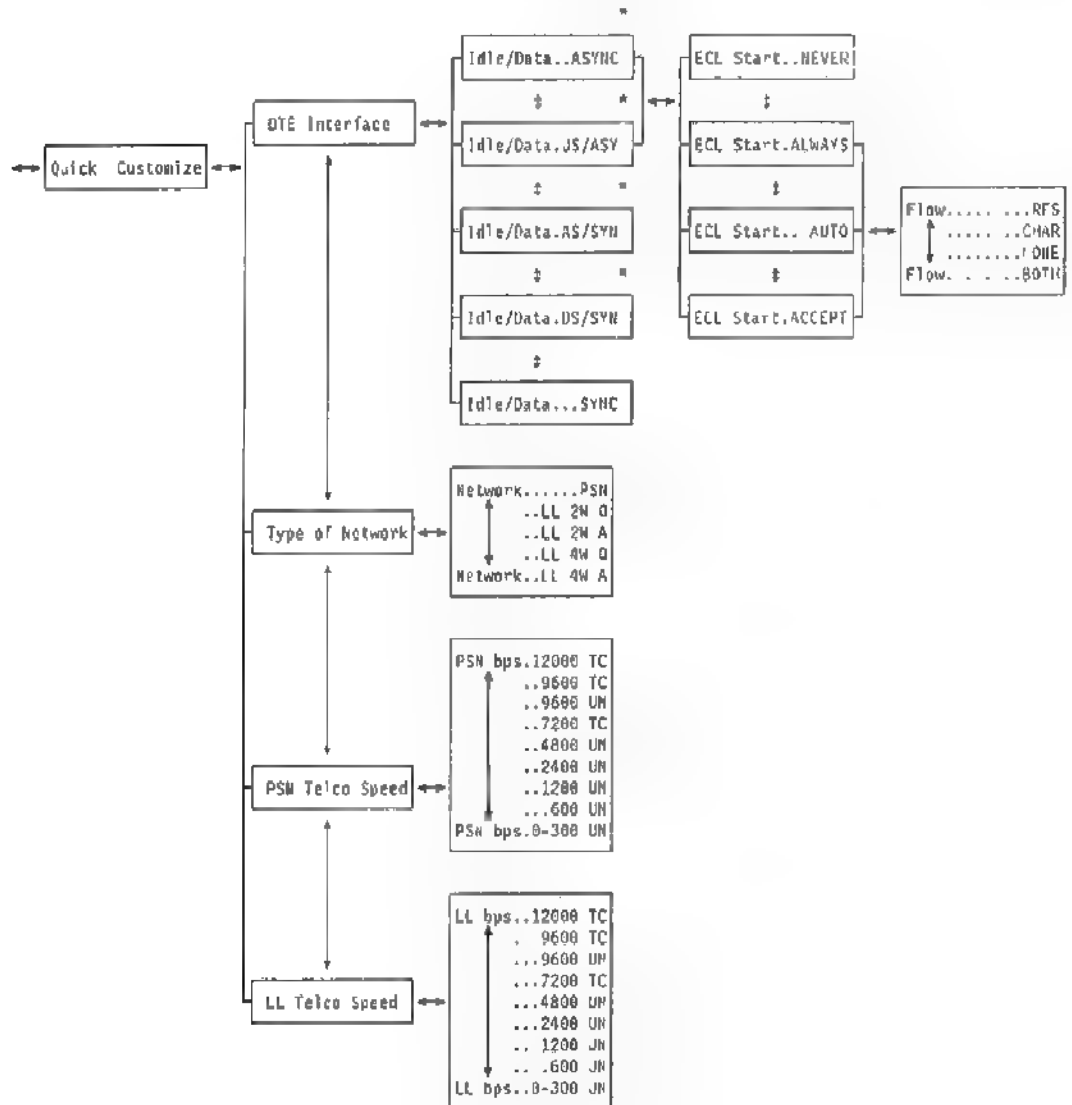
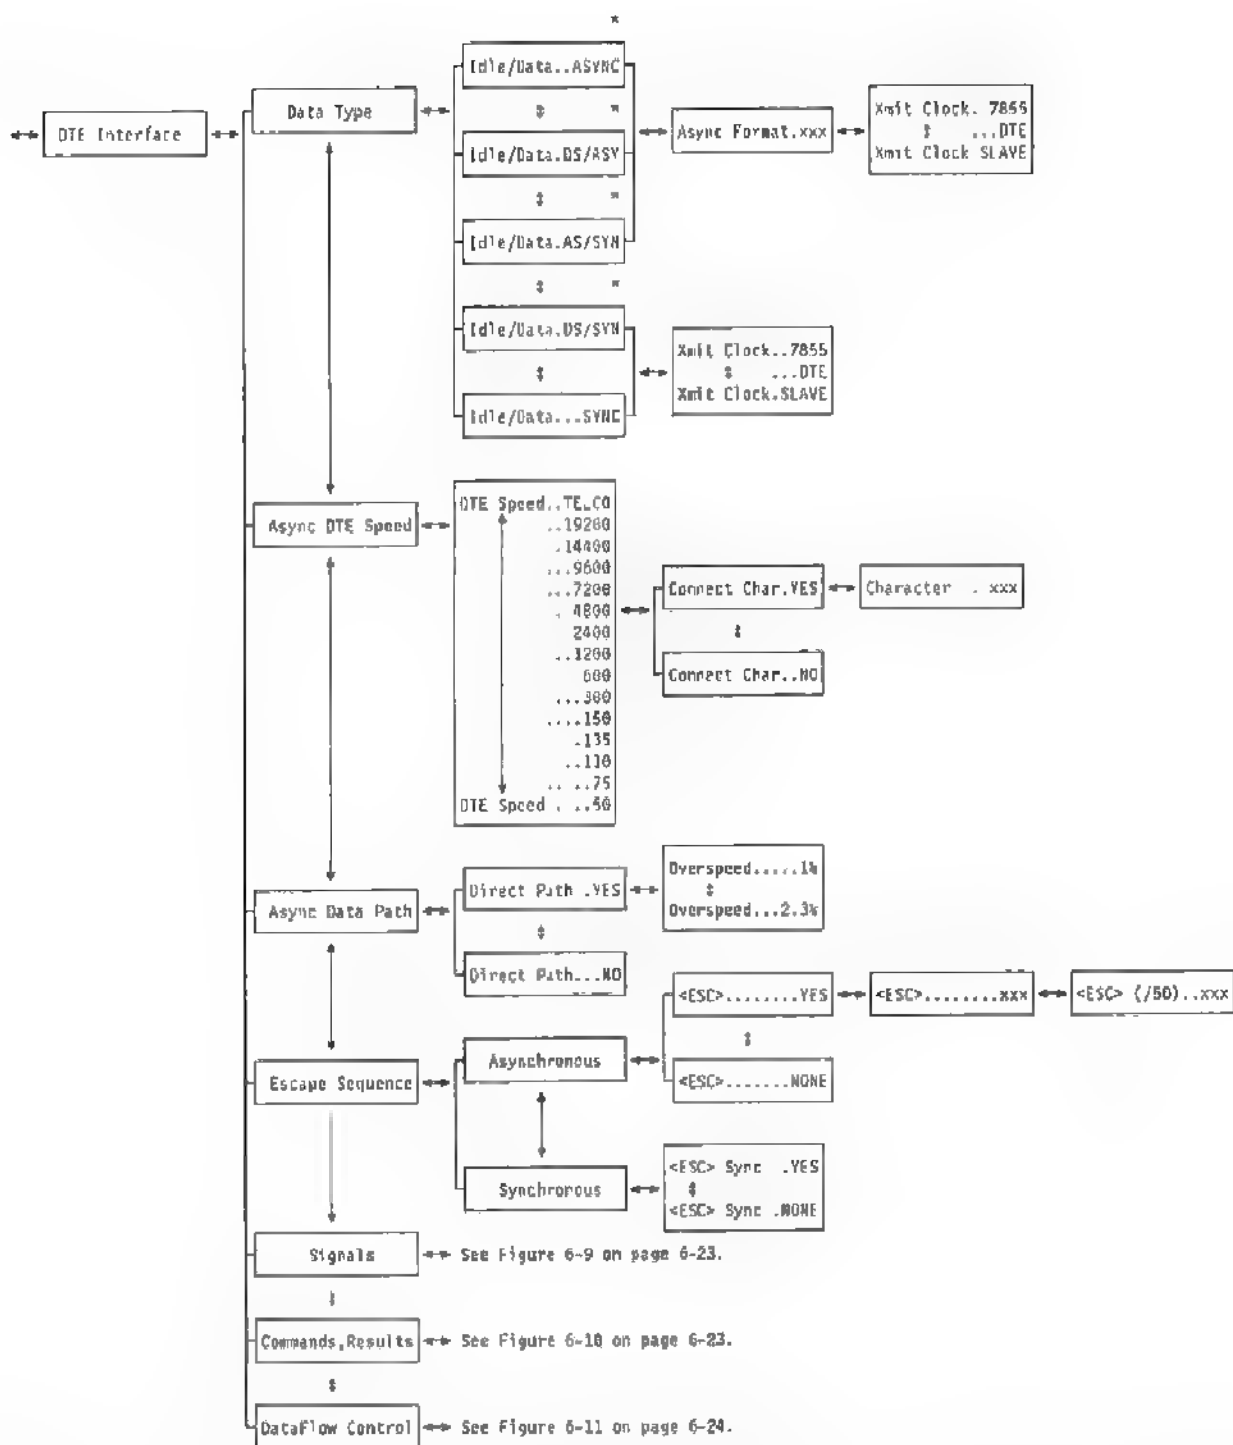
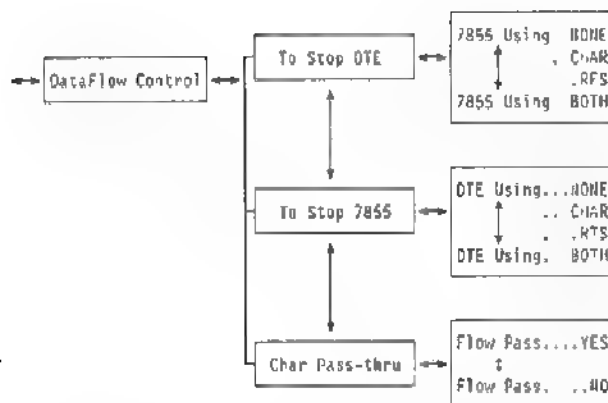

Figure 6-6 The Quick Customize Selections
Figure 6-8 Data Type, Asynchronous DTE Speed and Data Path, and Escapes. The portion of the tree to the "left" of this menu is shown in Figure 6-7
Figure 6-11. DataFlow Control for the DTE Interface. The portion of the tree to the "left" of this menu is shown in Figure 6-7.
**Configuration for Nonswitched Operation:** In the First Setup menu, use the ↑ or ↓ button to make the display show Get Profile and then press → and then use the ↑ or ↓ button to display Profile.....LL and then press ←. The modem is now set for synchronous operation as the originate modem for a 2-wire non-switched telecommunication network. Remember that for nonswitched operation, one modem must be set to originate and the other to answer mode handshaking and that a V.32 modem such as this one should be used with point-to-point (not multi-point) telecommunication lines. You can make this change in the Quick Customize menu which is shown in Figure 6-6 on page 6-17. When you leave the tree structure as described in "Leaving the Configuration Tree (Returning to Operate Messages)" on page 6-11, remember to save working memory in profile 0.
You must use the choices shown in "The First Setup Menu" on page 6-12 to set the basic synchronous or asynchronous operation of the modem. The modem does not allow you to change its behavior to or from the IDLE/DATA...SYNC choice from the DATA TYPE in Figure 6-8 on page 6-22.
See Figure 6-8 on page 6-22.
See Figure 6-6 on page 6-17 or Figure 6-12 on page 6-24.
See Figure 6-6 on page 6-17 or Figure 6-16 on page 6-28
See Figure 6-6 on page 6-17 or Figure 6-8 on page 6-22
See Figure 6-6 on page 6-17 or Figure 6-11 on page 6-24.